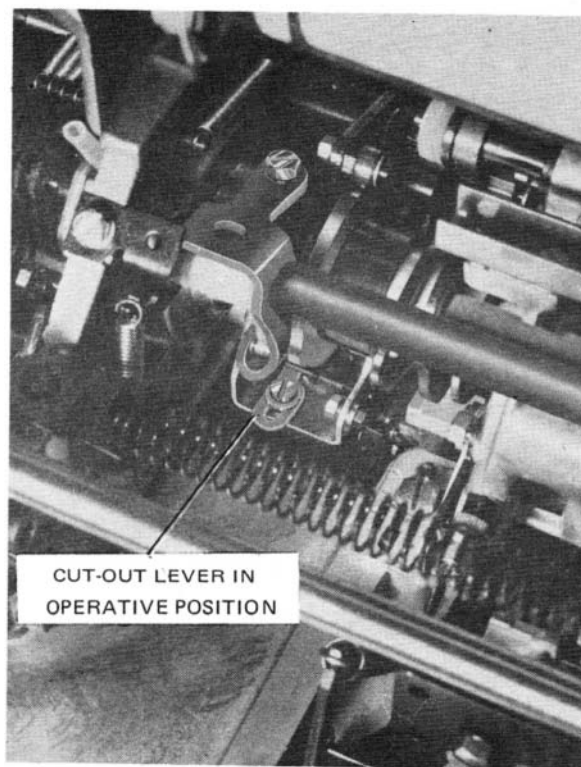

FIG. 2.8. MOTOR CONTROL SWITCH CUT-OUT LEVER
5.1 If the machine is equipped with a Motor Control Switch check that the cut-out lever, Fig. 2.8, is correctly positioned for the type of operation required. The lever should be fully to the rear for auto-start inhibition or fully to the front for auto-start operation.